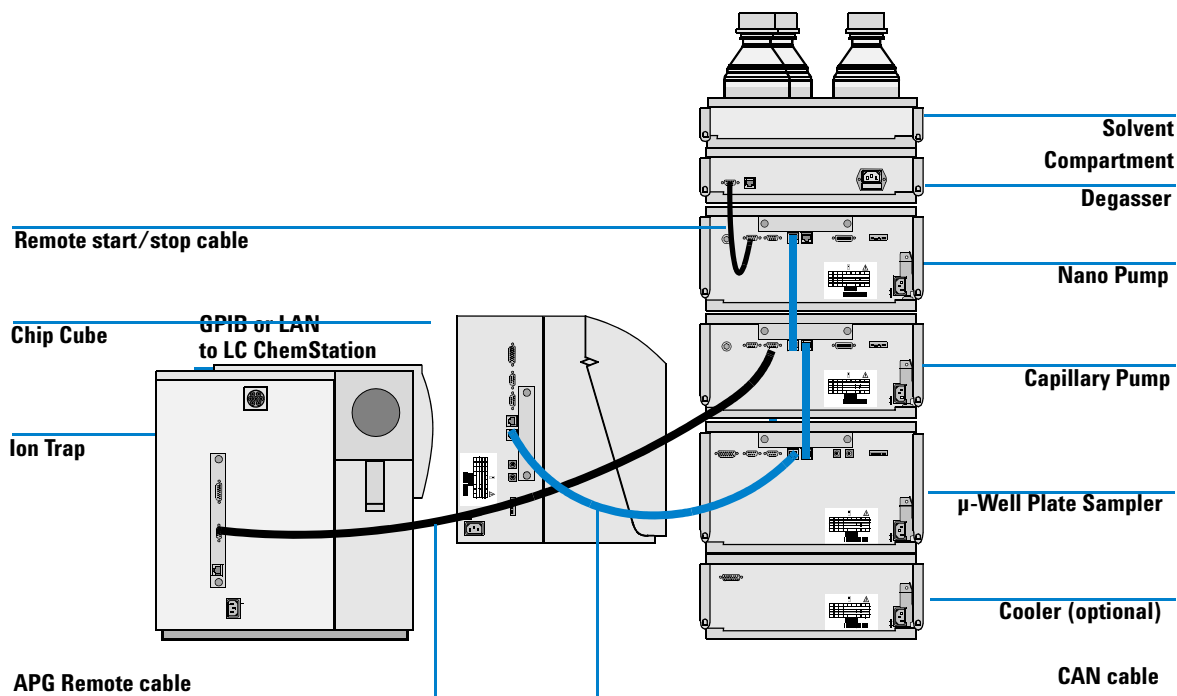

Figure 14 Recommended Single Stack Configuration - (Rear View)
- 8 Open the Chip Cube front door and connect the Chip Cube to any free CAN port of the Agilent 1260 Infinity stack using the supplied 1 m CAN cable (see Figure 14 on page 44).